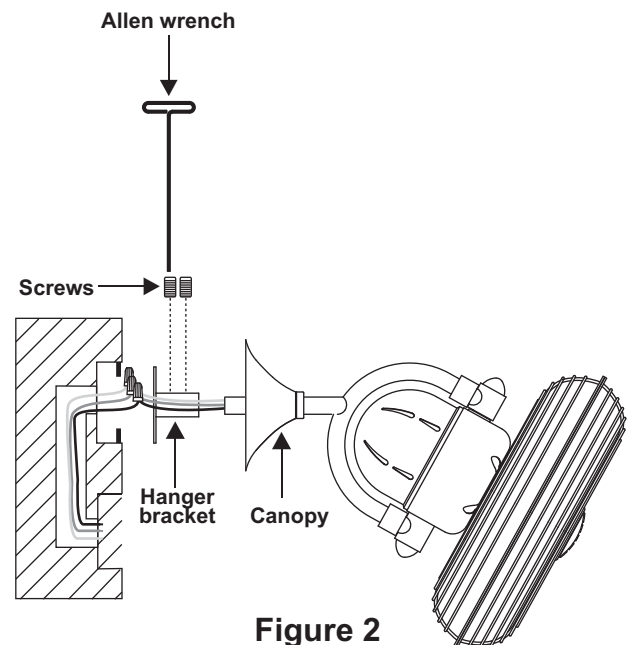

Figure 2
2. Verify that the set screws in decorative canopy are fully retracted. Not retracting them will cause unsightly scratches in the beautiful finish of the goose neck during installation. Leave the protective plastic sleeves in place on the gooseneck of the fan. Carefully push wires through the canopy and then slide the canopy up the gooseneck to the bend with wide section positioned towards wall (Fig. 2).